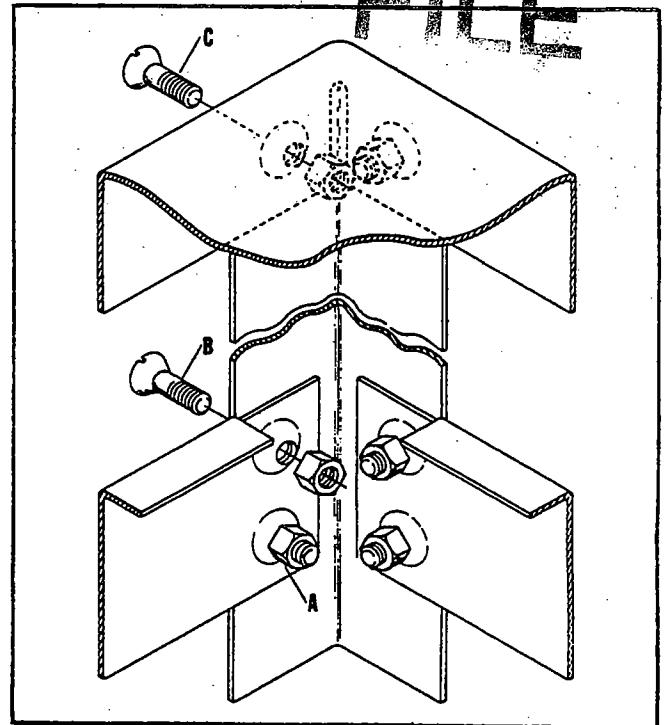

Fig. 5
2. Fig. 5 illustrates the proper relationship of the screws and nuts to the stand. Place the stand on a level surface and tighten the screws and nuts in the following order. First the eight lower tie bar screws and nuts (A), second the eight upper tie bar screws and nuts (B) and third the eight top shelf screws and nuts (C) Fig. 5.